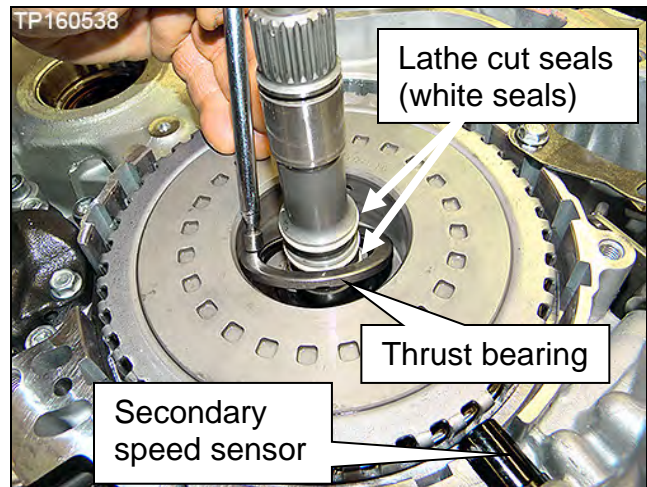

Figure 21C
14. Remove the thrust bearing from the clutch assembly bore (Figure 21C).
15. Wipe any metallic debris from the face of the secondary speed sensor (Figure 21C).